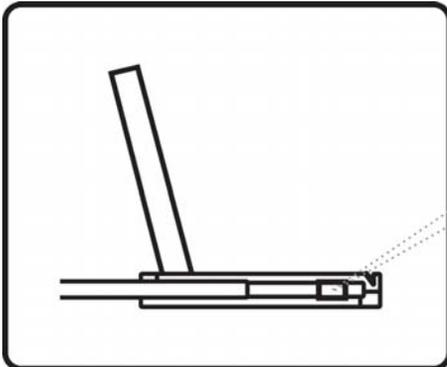

Figure 7
- A black arrow release button is located on the outside of each slide. (shown in **Figure 7**).